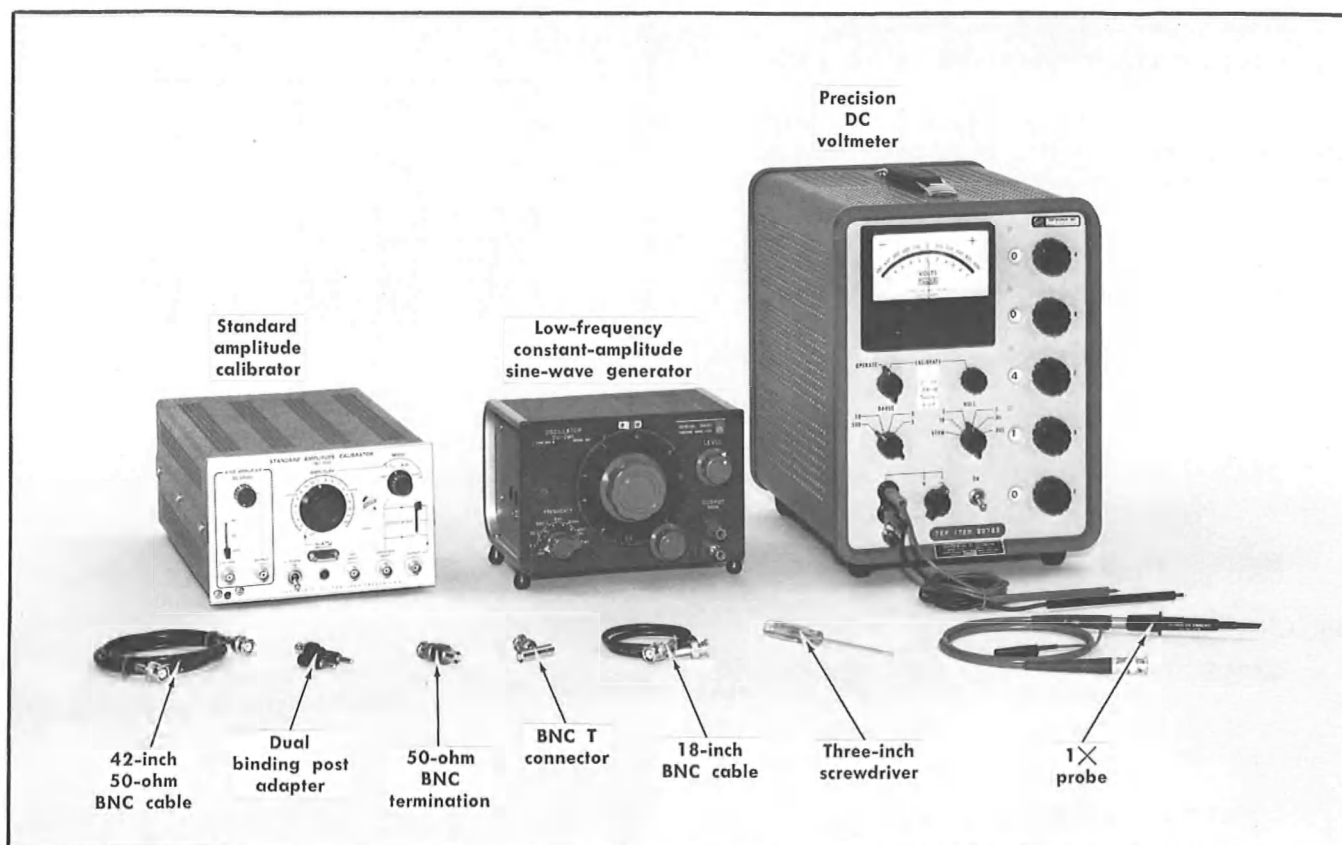

Fig. 5-30. Test equipment required for steps 54 through 59.
a. Test equipment required for steps 54 through 59 is shown in Fig. 5-30.